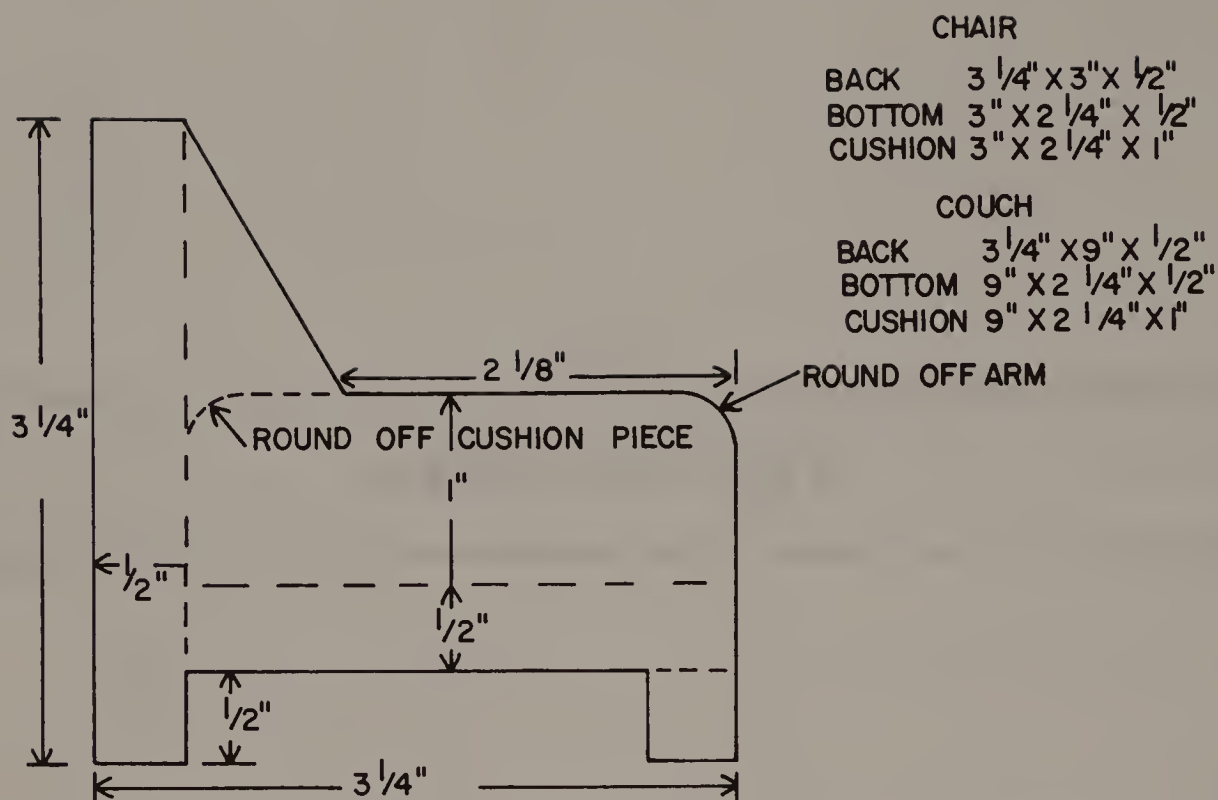

Fig. 14-1. The chair and couch plans.
□ Start by laying out the sides of the chair and couch to the pattern given in Fig. 14-1. The plans call for ½-inch stock, but if you prefer you can use ¼-inch stock. After you have made the proper layout, cut on your lines to produce the sides. Sand your cuts very smooth. Remember that this is a toy for a child and extra care must be given to make it as safe as possible.